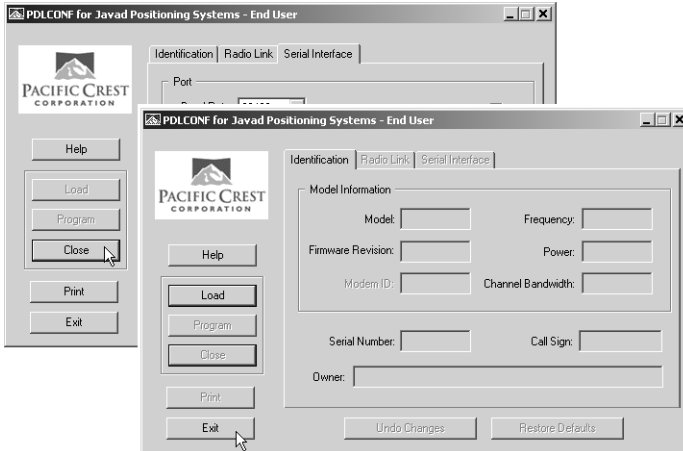

Figure 2-34. Click Close then Exit
- Click **Close** and then **Exit** to quit the program (Figure 2-34).